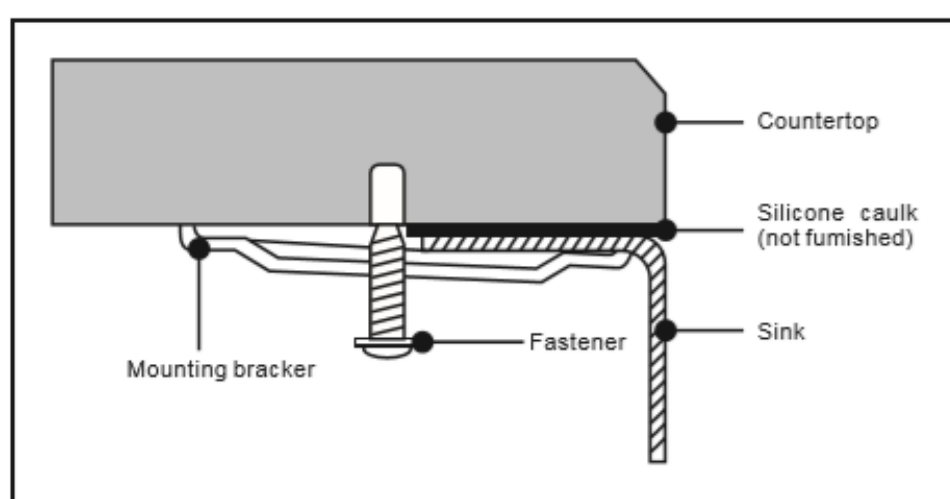

FIGURE 1
2. Supplied cutout template provides follow options of installation: A. Flush mount: Sink edge is flush with counter-top opening.(FIGURE 1)